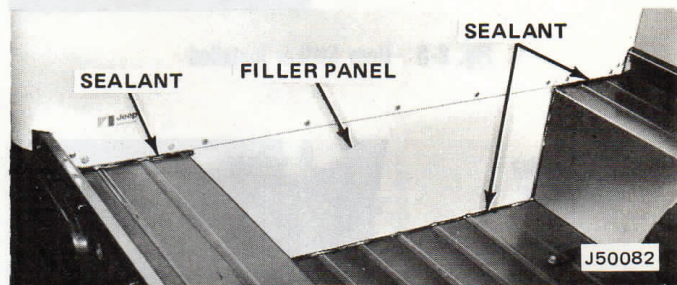

Fig. 2-13 Filler Plates Installed
(1) Slide filler plate into position at each lower corner of rear panel (fig. 2-13). Some installations may require grinding filler plates to fit.